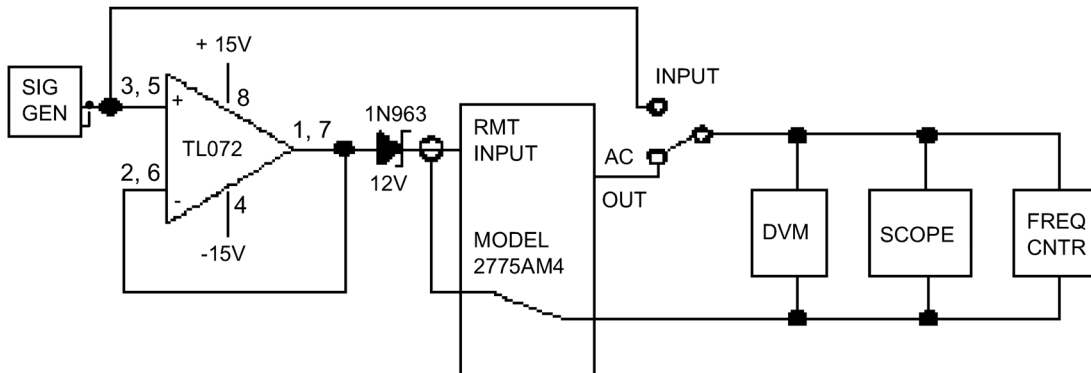

FIGURE 5-11: REMOTE GAIN
- B. The high frequency roll off is determined by the full scale range selected in combination with the multiplier and sensor. Set the AC OUTPUT to 1.00 Vrms at 1kHz for the reference frequency point. Increase the frequency until the AC OUTPUT drops to the -5% point and record the frequency, next increase the frequency until the AC OUTPUT drops to the - 30% (-3dB) point and record the frequency. Readjust the AC OUTPUT reference to 1.00Vrms at 1kHz for each full scale range. The frequency recorded should be greater than the frequency listed for each full scale range. (See Figure 5-11 for Setup.)
Set the FUNCTION switch to OUT CAL and the FULL SCALE switch to 3K. Measure the ac amplitude at U17 pin 7 and adjust the AC ADJ for exactly this ac reading times 0.9852 at the AC OUT. Set the FUNCTION switch to OP and set the back panel MODE switch to RMT and connect a 1 KHz sine signal through the current blocking circuit (Figure 5-11) to the REMOTE INPUT (J4). Set the MUTIPLIER switch to 1 and set the FULL SCALE switch per the following table:
The high frequency roll off is determined by the full scale range selected in combination with the multiplier. Set the AC OUTPUT to 1.00 V rms at 1 KHz for the reference frequency point. By adjusting the input source increase the frequency until the AC OUTPUT drops to the -5% point and record the frequency, next increase the frequency until the AC OUTPUT drops to the - 30% (-3dB) point and record the frequency. Readjust the input source until the AC OUTPUT reference is 1.00 Vrms at 1 KHz for each full scale range. The frequency recorded should be greater than the frequency listed for each full scale range (Figure 5-11).